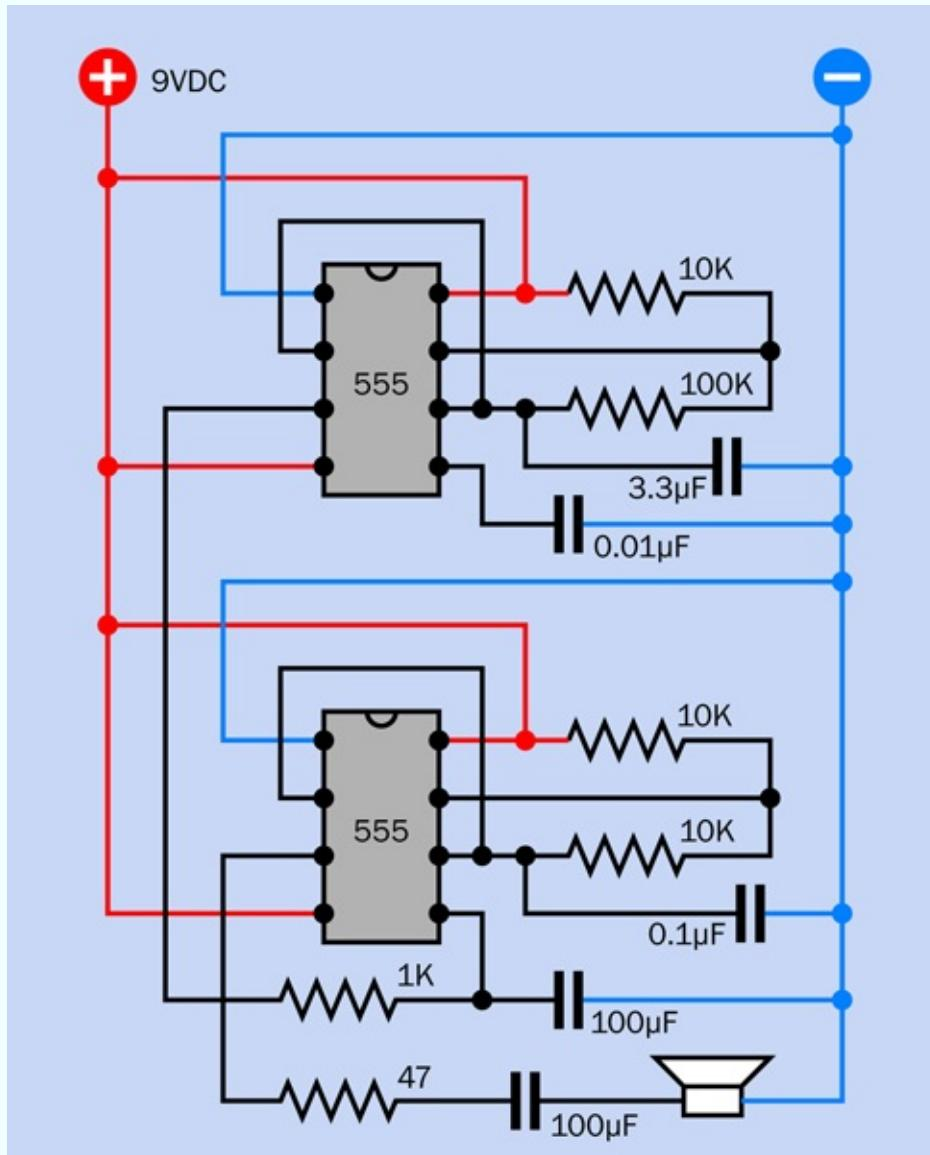

Figure 4-36. When one timer runs relatively slowly, modulating another through its control pin (pin 5), the result is a wavering sound like an alarm siren.
The circuit is shown in Figure 4-36. Timer 1 is wired in a basic astable circuit, which you can recognize as being similar to the circuit in Figure 4-22. The component values are larger, so the timer oscillates more slowly, around 1Hz. You can compare this circuit with the one that I suggested in Figure 2-120. The principle is similar.
- Components shown in Figure 4-36